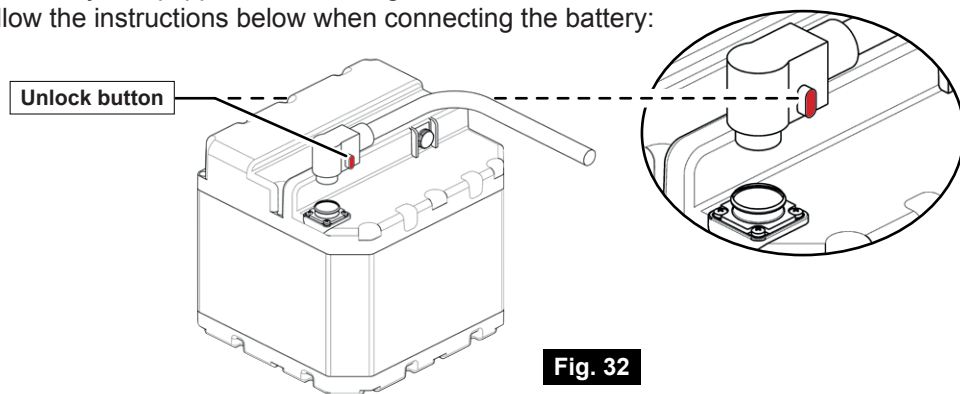

Fig. 32
- Each connector is equipped with a locking mechanism to prevent accidental disconnection (see Fig. 32).